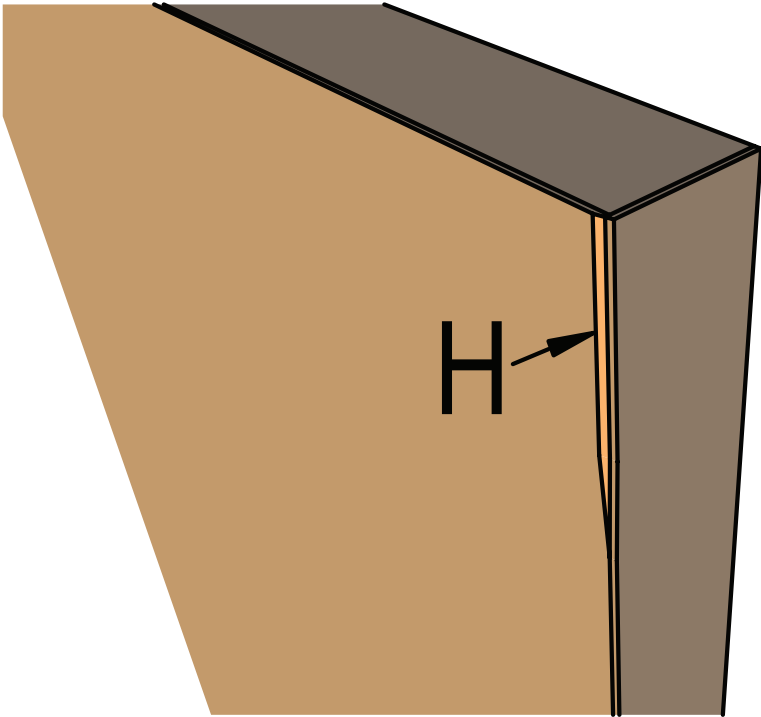

Figure 25 - Over-Filing / Over-Machining
- d) Over-machined (See Figure 25, H) removal of color or pattern of face material shall be limited to: